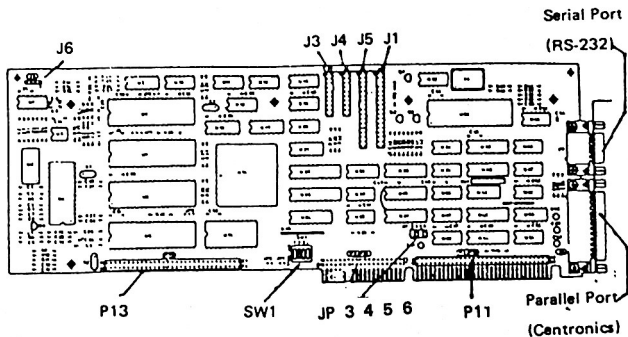

Figure 3
7. Connect the flex disk drive control cable to J1 on the Personality Board as shown in Figure 3. Make sure that the edge of the cable with a colored tracer is nearest the top edge of the board.
8. If your PC has a hard disk drive, connect the hard disk drive control cable to J5 on the Personality Board as shown in Figure 3. Make sure that the edge of the cable with a colored tracer is nearest the top edge of the board.
9. The data cable from the first hard disk drive must be connected to J4 on the Personality Board. If your PC includes a second hard disk drive, the data cable from this drive must be connected to J3 on the Personality Board, see Figure 3. Make sure that the edge of the cable with a colored tracer is nearest the top edge of the board.
10. Connect the cable from the hard disk LED to J6 on the Personality Board as shown in Figure 3. This connector is designed so that it may be connected either way round.